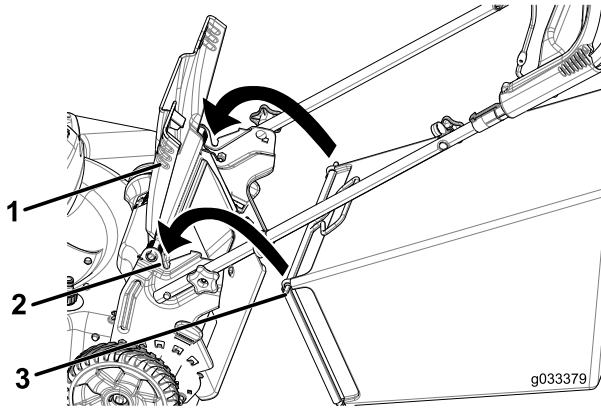

Figure 21
1. Raise and hold up the rear deflector (Figure 21).
2. Install the grass bag, ensuring that the pins on the bag rest in the notches in the handle brackets (Figure 21).